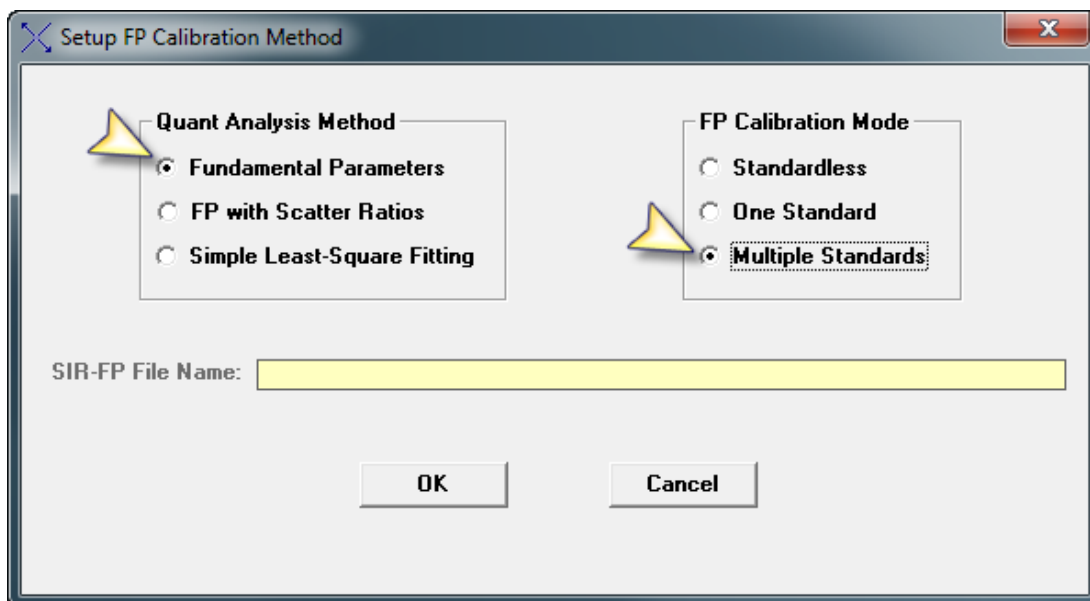

Figure 4. Setup FP Calibration Method. Select “Fundamental Parameters” for the “Quant Analysis Method” and “Multiple Standards” for the “FP Calibration Mode”.
9. Having obtained the 4 TFR files above for the 4 MLSQ standards, select **Setup** -> **Quant**. This will bring up the “Setup FP Calibration Method” dialog shown below in Figure 4. Now select the radio buttons for “Fundamental Parameters” with “**Multiple Standards**”. Click “OK” to exit the dialog.